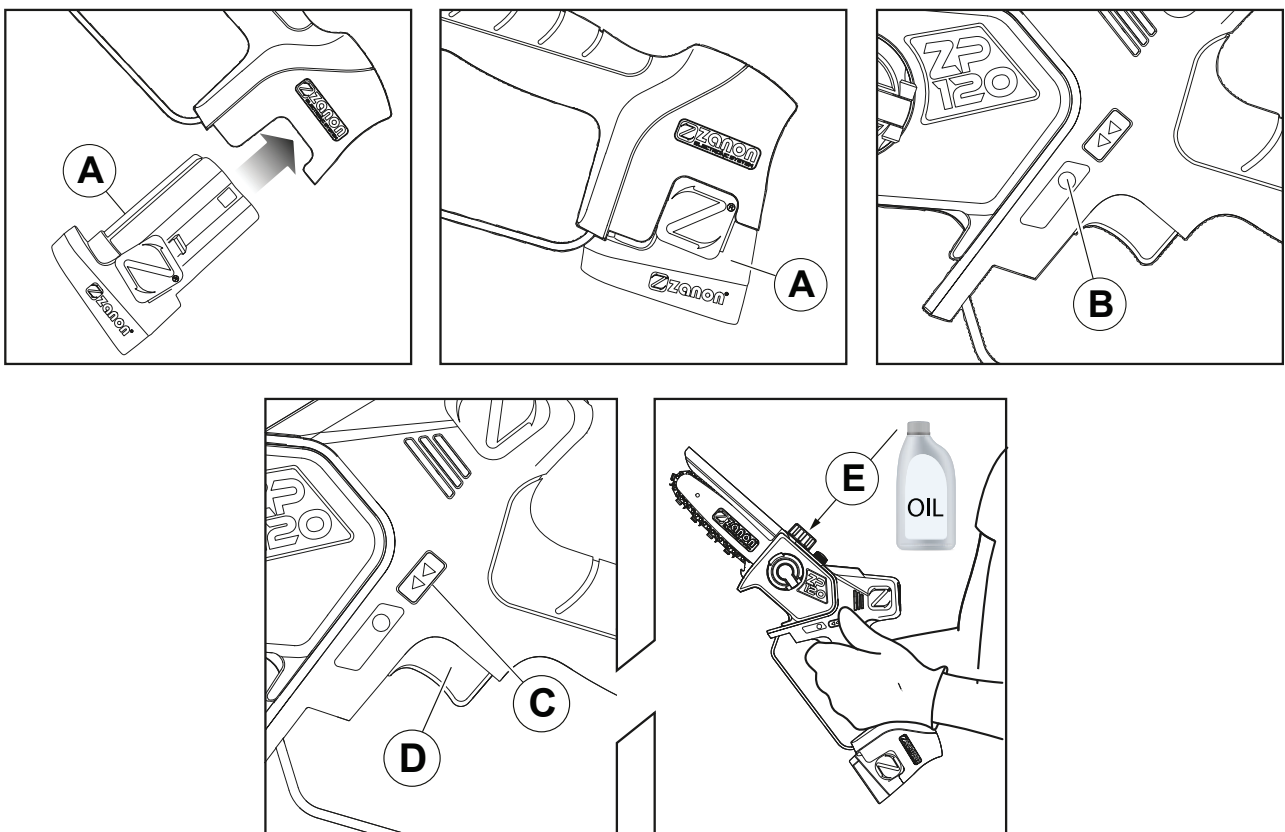

Fig. 4
- Insert the battery (A) into the housing compartment of the pruner (fig. 4);
- To turn on the pruner the press the power button (B);
- Press and hold the lock button (C) with your thumb, then press the trigger (D) at the same time: the pruner is working.
- Grip the pruner and orient it towards an unobstructed free space, then operate it to ensure correct operation by briefly pressing the triggers (C) and (D) simultaneously;
- Make sure that there is lubrication oil in the tank (E);